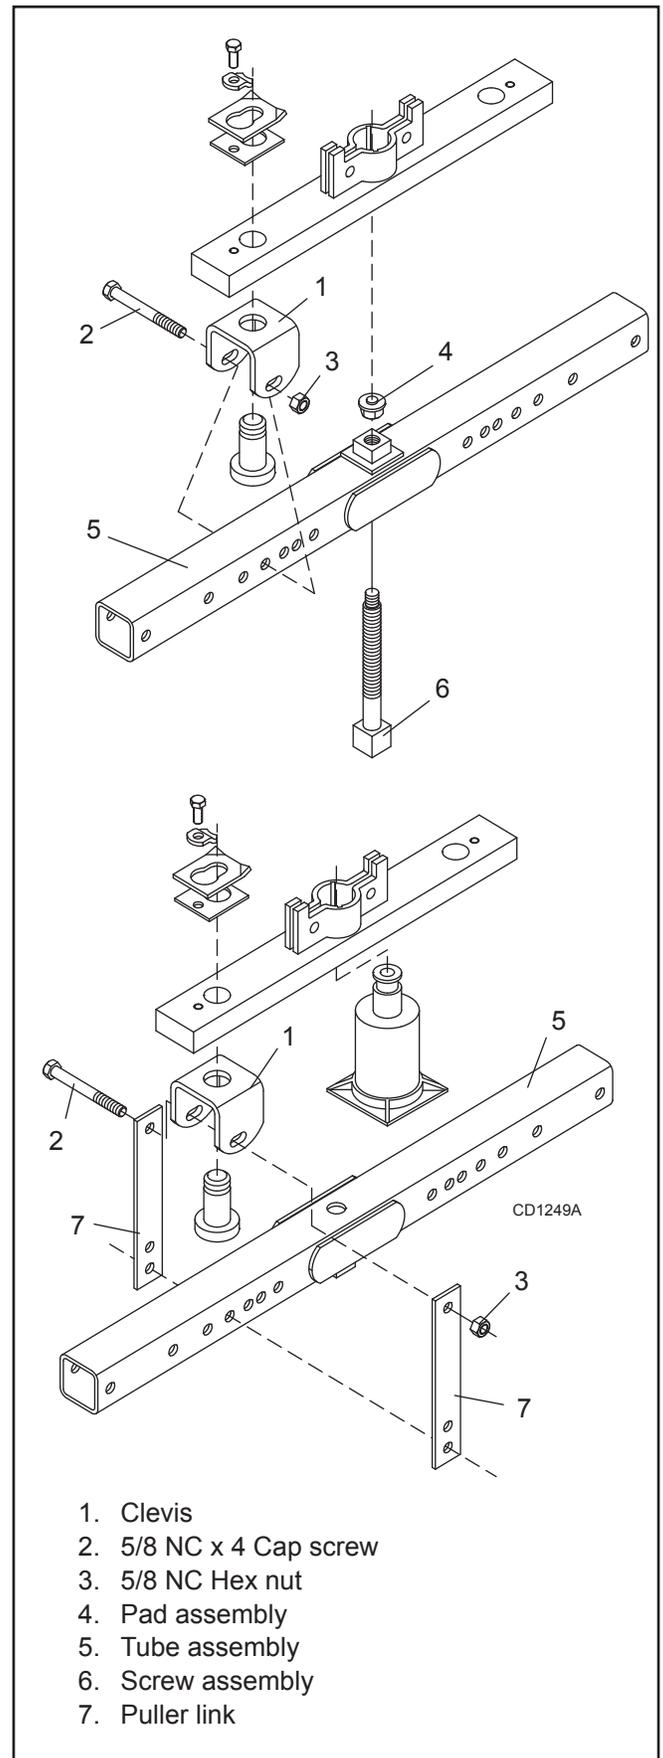

Figure 24. Crossbar Removal
3. Remove cotter pin (20) and castle nut (19) from bottom of crossbar.
4. Refer to Figure 24. Attach a clevis (1) to each end of crossbar, using blade pins, spacers, keyhole plates, and blade pin clips.
5. Position tube assembly (5) with threaded nut toward crossbar for puller screw removal or down for hydraulic jack removal.
6. For removal with puller screw, attach tube (5) to each clevis with screws (2) and nuts (3). Place pad (4) in nut and thread puller screw (6) into nut from bottom. Tighten until pad is solid against gearbox shaft. For best results, strike head of puller screw with a hammer while tightening with a wrench.
7. For removal with a jack, attach tube to each clevis with puller links (7), screws (2), and nuts (3). Place jack on tube with end of jack pressing against gearbox shaft. Slowly apply force with jack.